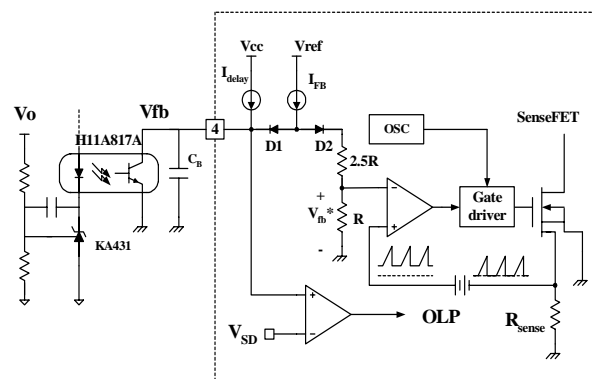

Figure 5. Pulse width modulation (PWM) circuit
2. Feedback Control : FSDM07652R employs current mode control, as shown in figure 5. An opto-coupler (such as the H11A817A) and shunt regulator (such as the KA431) are typically used to implement the feedback network. Comparing the feedback voltage with the voltage across the R_{sense} resistor plus an offset voltage makes it possible to control the switching duty cycle. When the reference pin voltage of the KA431 exceeds the internal reference voltage of 2.5V, the H11A817A LED current increases, thus pulling down the feedback voltage and reducing the duty cycle. This event typically happens when the input voltage is increased or the output load is decreased.
2.1 Pulse-by-pulse current limit: Because current mode control is employed, the peak current through the Sense FET is limited by the inverting input of PWM comparator (Vfb*) as shown in figure 5. Assuming that the 0.9mA current source flows only through the internal resistor (2.5R + R = 2.8 kΩ), the cathode voltage of diode D2 is about 2.5V. Since D1 is blocked when the feedback voltage (Vfb) exceeds 2.5V, the maximum voltage of the cathode of D2 is clamped at this voltage, thus clamping Vfb*. Therefore, the peak value of the current through the Sense FET is limited.